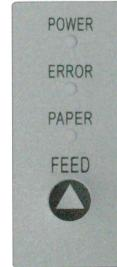

Fig 3.1-3
c) Feed button (See Fig 3.1-3)